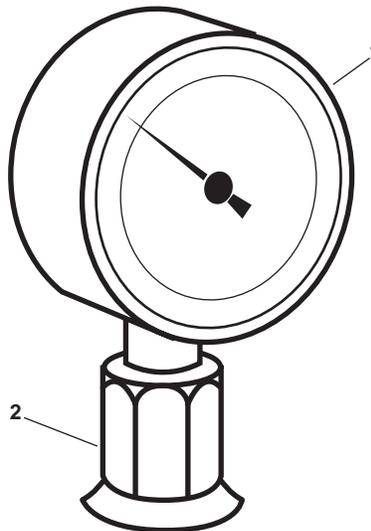

Figure 3. Pressure Gauge Replacement
1. Slowly remove the pressure gauge (figure 3, item 1) from its fitting (figure 3, item 2).
2. Plug the fitting (figure 3, item 2) to prevent contamination of the OWS.
1. Apply antiseizing tape to the male threads of the new pressure gauge (figure 3, item 1).
2. Thread the new pressure gauge (figure 3, item 1) into the fitting (figure 3, item 2). Tighten the pressure gauge snugly.